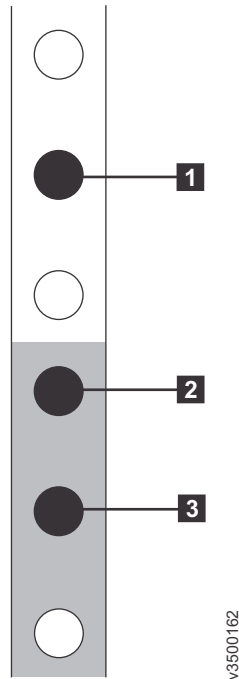

Figure 15. Hole locations in the front of the rack
4. Working at the front of the rack cabinet, identify the two standard rack units (2U) of space in the rack into which you want to install the support rails. Figure 15 on page 19 shows two rack units with the front mounting holes identified.